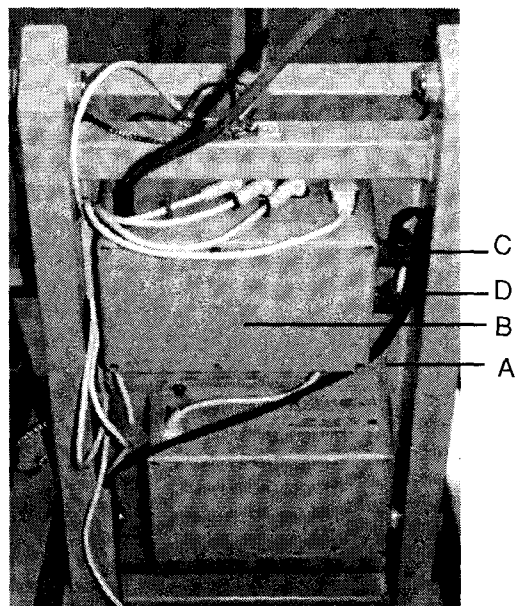

Figure 1 1232A117.tif
- 5 Remove the 4 clips securing the cover plate (A) of the power unit (B) (refer to figure 1).
- 9 Only if the bed features Trendelenburg/Reverse Trendelenburg: with the small flat blade screwdriver, unscrew the screw securing the Trendelenburg End Of Travel connector (C) to the power unit, and remove the connector (refer to figure 1).
- 10 Only if the bed has a battery: with the small flat blade screwdriver, unscrew the screw securing the battery connector (D) (refer to figure 1).